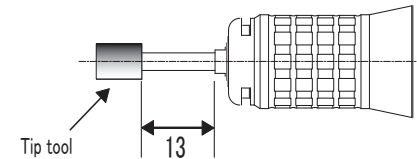

Fig.1 About Overhang
- Attach tip tools so that the mounting length (overhang) is 13mm or less. (Fig.1)